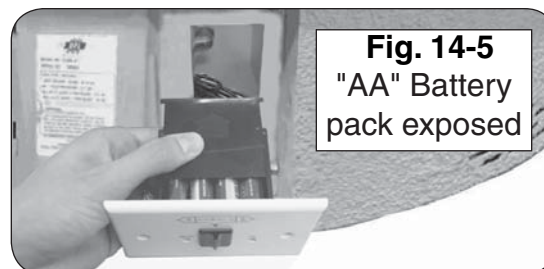

Fig. 14-5
To access the "AA" battery pack, unscrew and remove the two (2) retaining screws on the control system. Remove the control system and then slide open the battery pack lid as shown in Fig. 14-5. Replace the old batteries with four (4) new "AA" batteries. Resecure the battery pack lid and return the control system into the control panel. Screw in the two (2) retaining screws.